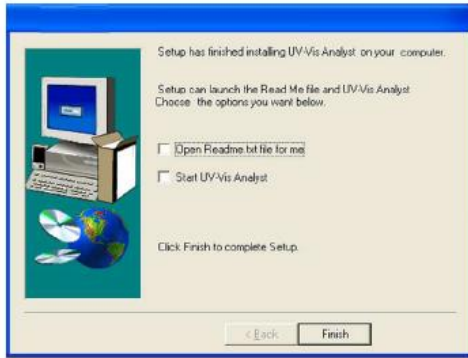

Fig. 2-7
- Click finish to complete and exit setup (Fig. 2-7).